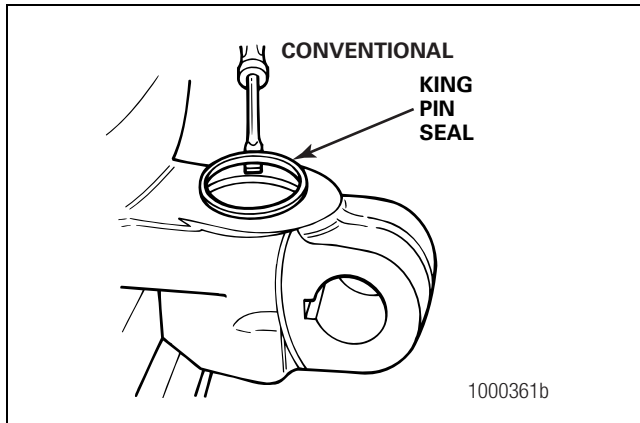

Figure 4.26
1. Remove and discard the lower king pin seal. Figure 4.26.